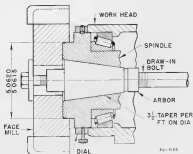

Figure 60B
5. Swivel the attachment spindle housing to some convenient position and mount face mill (see Figure 60B for suggested method)